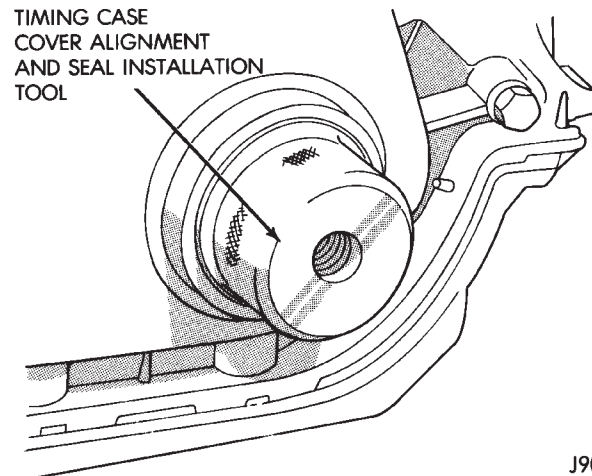

Fig. 15 Timing Case Cover Alignment and Seal Installation Tool 6139
(10) Position the timing case cover on the oil pan gasket and the cylinder block.
(11) Place Timing Case Cover Alignment and Seal Installation Tool 6139 in the crankshaft opening of the cover (Fig. 15).